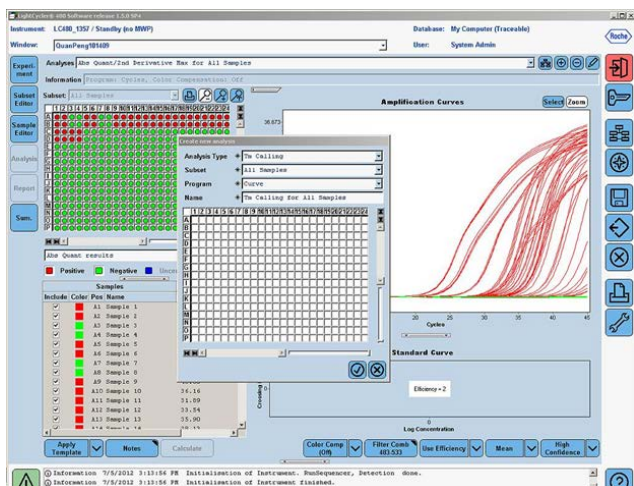

Figure 11. Setting up the melt curve analysis.
- To proceed with the melt curve analysis, click the  button located on the right of the Analyses line at the top of the window. The Create new analysis dialog box will open (Figure 11). Select the "Tm calling" for the Analysis Type. Then click  to confirm the selection.